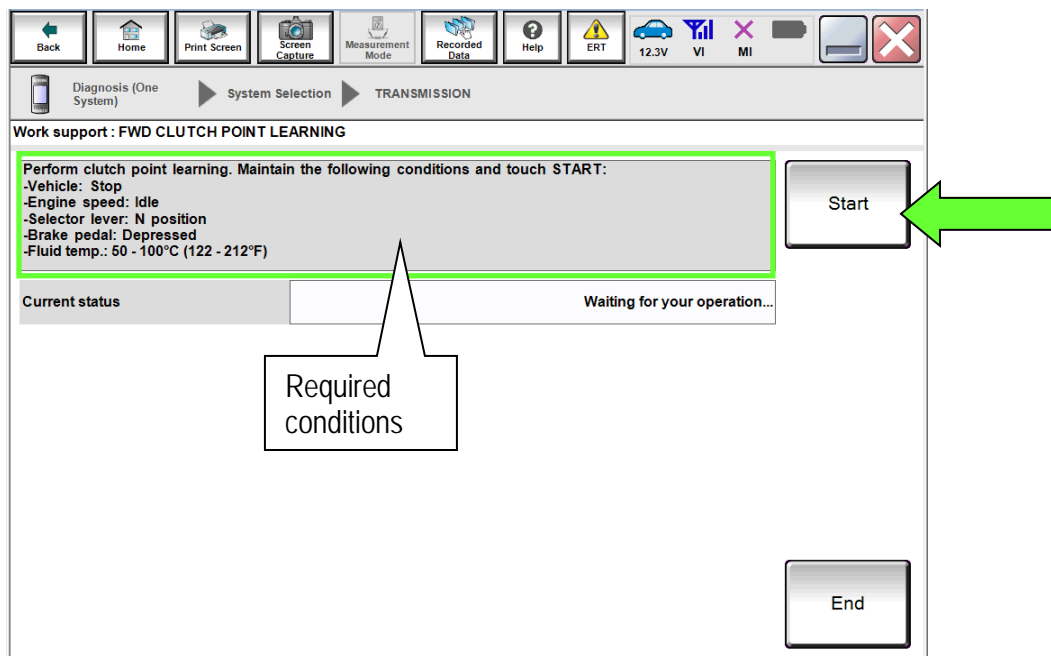

Figure 53
32. With the engine still running and at idle, depress the brake pedal and shift the CVT into neutral (N).
- Confirm that all of the conditions indicated in Figure 53 are being met.
34. While maintaining all conditions shown in Figure 53 and the Current status indicates EXECUTING, shift the CVT into R and then wait until the Current status indicates COMPLETED.